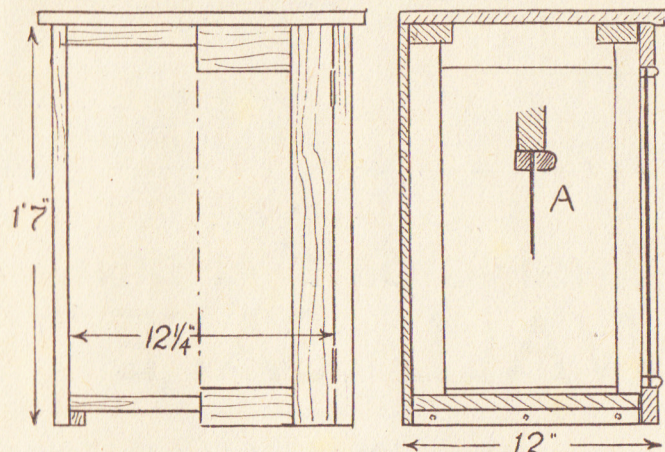

Fig. 1—Front and side elevation showing constructional details
the inside, but a much neater method is to fix it in place with beading both sides, as in inset drawing (A) in Fig. 1. A bit more trouble, admittedly, but worth it in the writer's opinion.